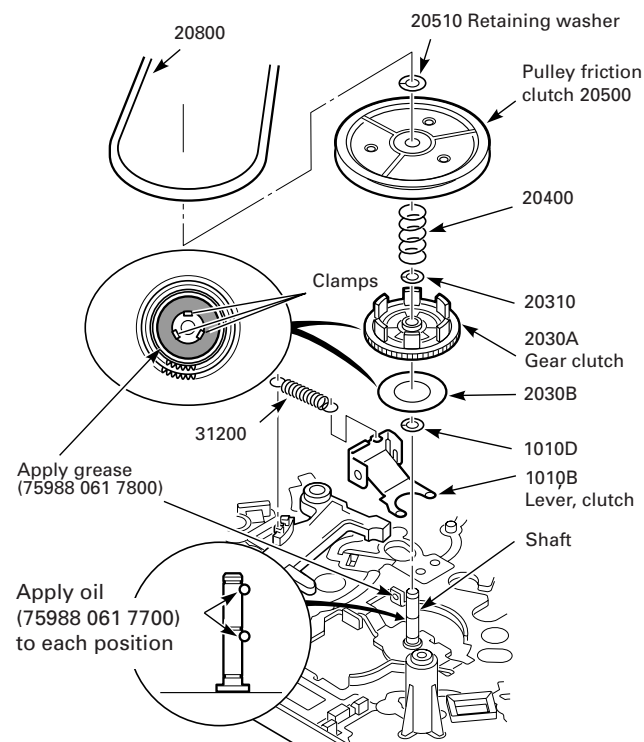

Fig. 8.21
- Detach the reel belt (20800), remove the retaining washer (Pos. 20510) and remove the pulley together with the friction clutch (20500, Fig. 8.21).
- Remove the clutch spring (20400), remove the retaining washer (Pos. 20310) and the clutch gear (2030A, Fig. 8.21).
- Always use the types of grease with part numbers **75988 061 7700**, **75988 061 7800** for lubricating the pulley shaft and the clutch gear (2030A) and follow the lubrication instructions given in Fig. 8.21!
- Remove the reel belt (20800, Fig. 8.21).